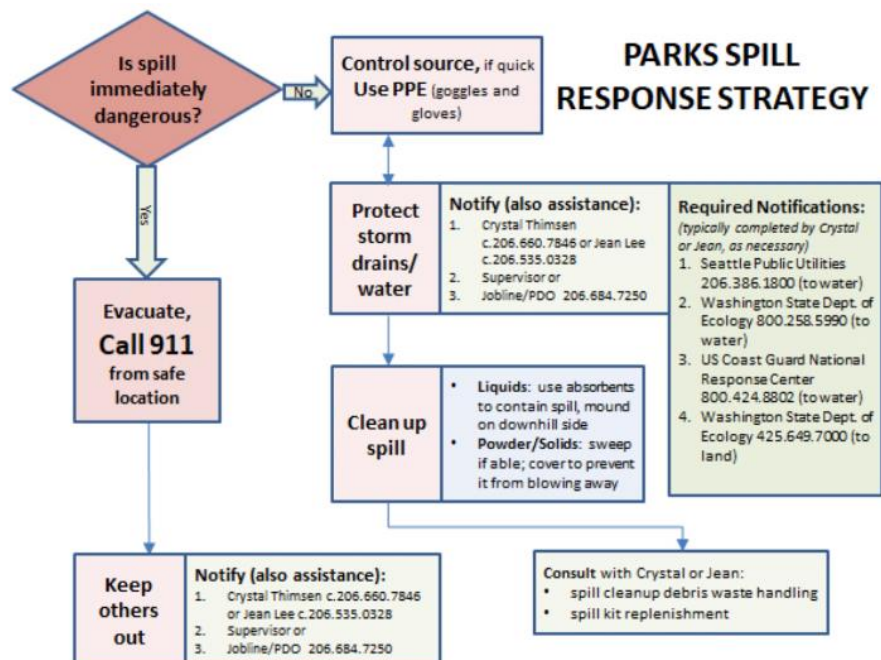

Figure 1 Seattle Parks and Recreation Spill Response Strategy
- If soils are unstable and an erosion control practice is determined to be necessary below the OHWM, coir mat shall be installed along the banks. Install only the coir as shown along the upper (outermost) banks within the detail (Figure 1). Install coir so that any upstream mat is laid over any downstream mat where they meet. Overlap shall be 12" with staples installed through overlap (refer to CSSM BMP E1.15 pg=154).